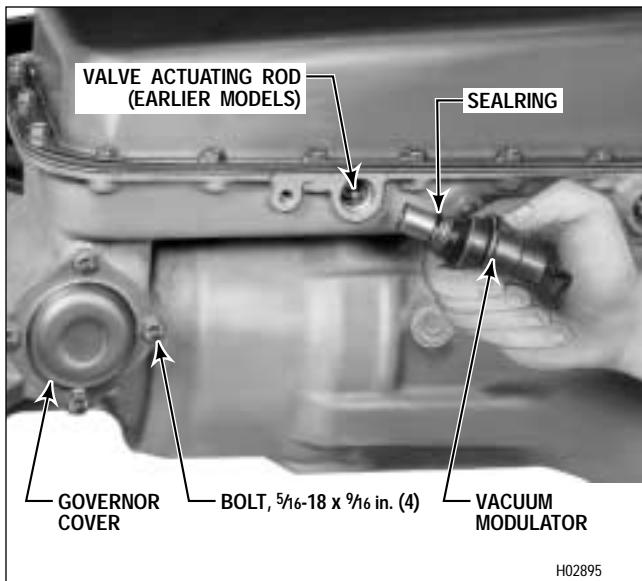

Figure 5-4. Removing Vacuum Modulator
(3) Remove the vacuum modulator (Figure 5-4). Remove the sealring from the modulator.
(4) For earlier models, remove the modulator valve actuator rod from the transmission case (Figure 5-4). Later model transmissions have an actuating rod retained in the modulator valve body. Refer to Paragraph 3-17b for vacuum modulator check.
(1) Remove the four bolts that retain the governor cover (Figure 5-4). Remove the cover.